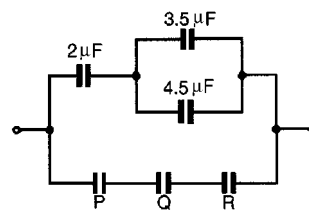

Figure 6.12
- In Fig. 6.12 capacitors P , Q and R are identical and the total equivalent capacitance of the circuit is $3\mu\text{F}$. Determine the values of P , Q and R [4.2 μF each]